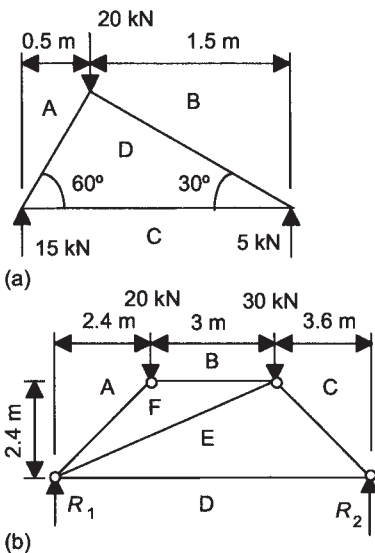

Figure 23.24 Problem 8
- 8 Determine by scale drawing, either vector diagrams for each joint or force diagrams, the forces acting in the members of the pin-jointed frameworks shown in Figure 23.24.